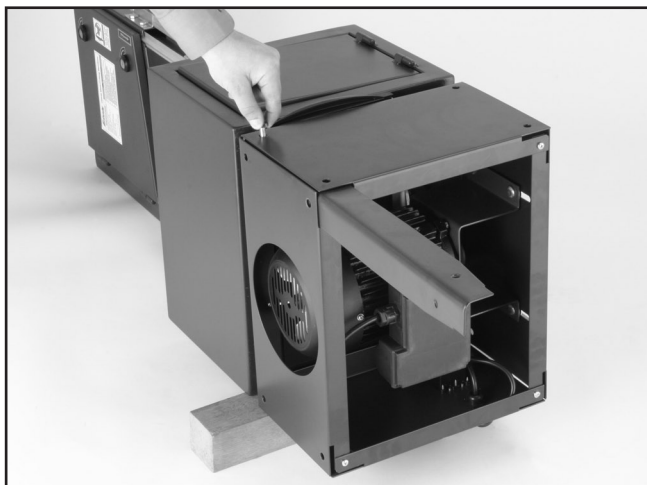

Figure 5. Installing legs to the base.
1. With the help of an assistant, lay the bandsaw down on a block to support the base as shown in **Figure 5**, and insert the legs into the base.
2. Insert the hex bolts through the body and legs (**Figure 5**), and fasten with the hex nuts.